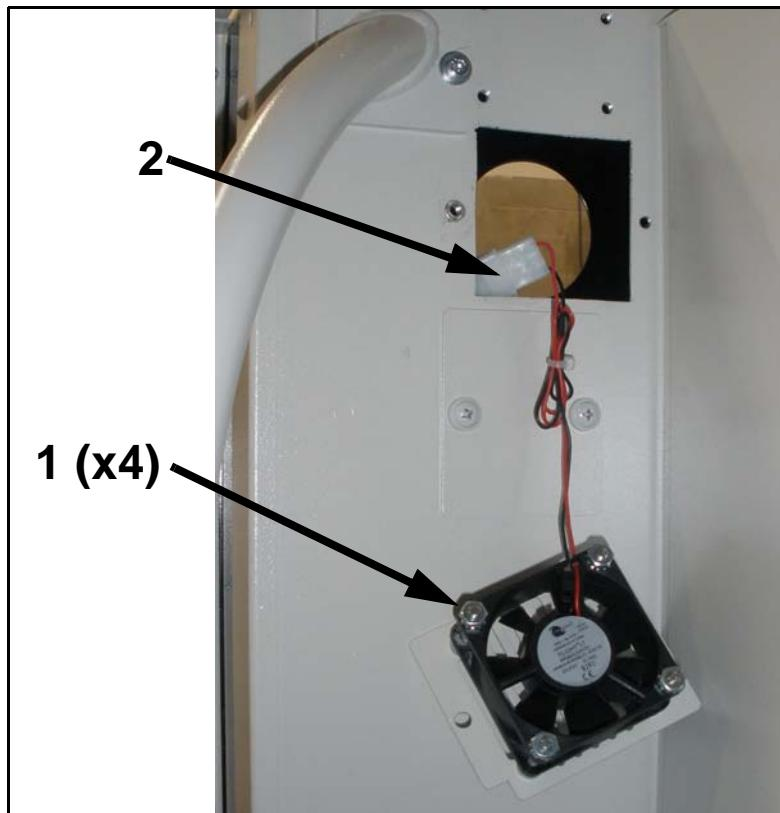

Figure 6-30. Fan Removal
- 3 Unscrew mounting screws (1 in Figure 6-30).
- 4 Disconnect connector (2).